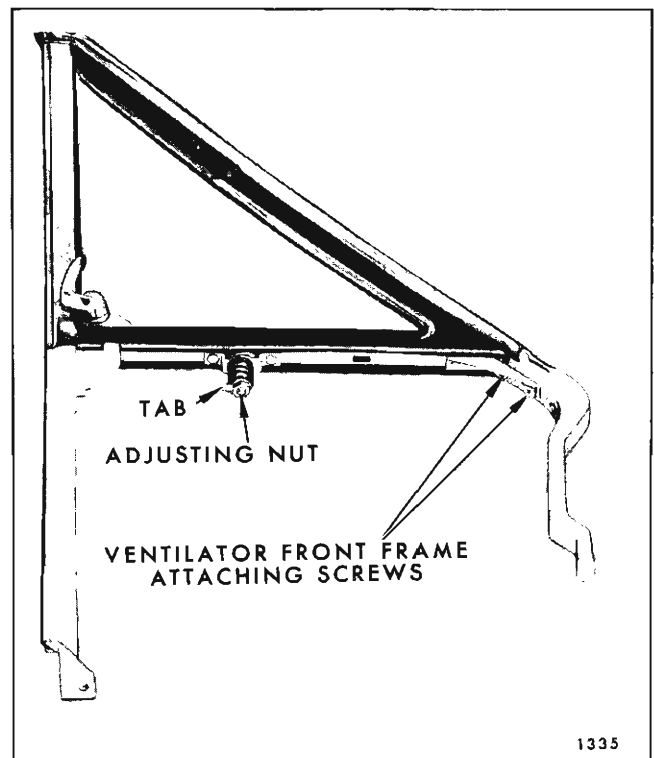

Fig. 2D26—Front Door Ventilator Assembly
1. A slight fore and aft adjustment of the ventilator division channel is available at the lower adjusting stud and nut by loosening attaching nut and sliding nut in slot provided (See Fig. 2D25). The division channel can also be positioned in or out by loosening nut and turning stud in or out as required and tightening nut.
effort and loosening adjusting nut will decrease effort. When desired adjustment has been obtained, bend down washer tab to lock nut in position (See Fig. 2D26).